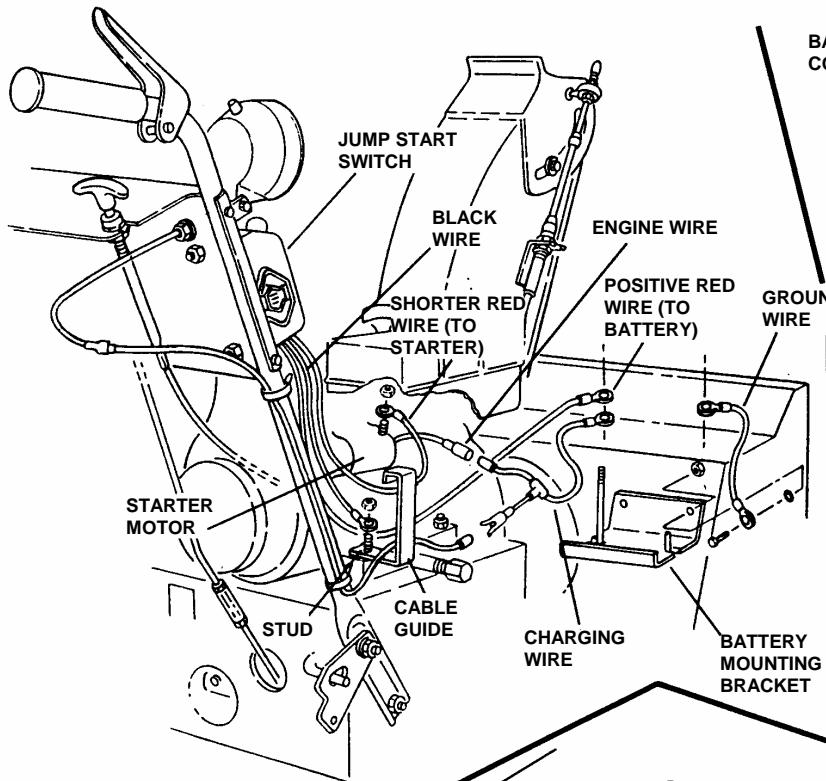
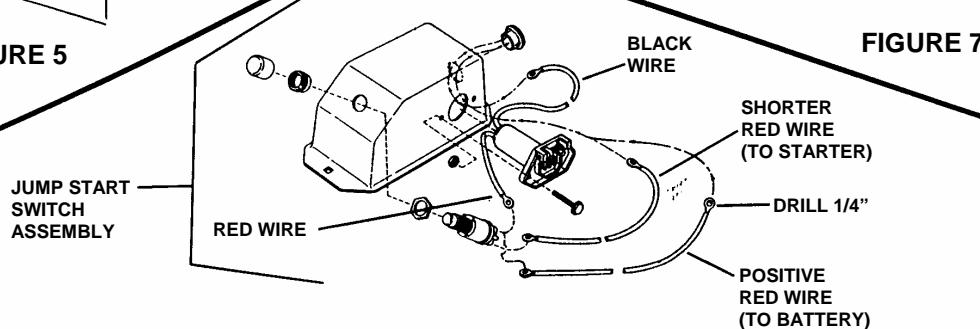

FIGURE 5
FIGURE 6
STEP 5: Secure bracket and ground wire to auger housing with nuts; washers and bolts supplied with kit. See Figure 5.
STEP 7: Install battery and connect ground wire (black ground wire found in kit #6-0651) to negative terminal side of battery with nut and bolt as shown. Tighten nut and bolt securely; do not over tighten. See Figure 5 & 7.
STEP 8: Before mounting jump start switch connect positive red wire (longer red wire that mounts to battery) to switch button as shown. See Figure 6. Mount jump start switch onto control panel using nuts and bolts found in kit #6-0646 Jump Start Kit. See Figure 5.
STEP 9: Loosen nut that secures cable guide to engine base. Install black wire from jump start switch to stud and reinstall nut and tighten securely. See Figure 5.
STEP 10: Remove nut from starter motor and mount shorter red wire from jump start switch and reinstall nut and tighten securely. See Figure 5.
STEP 11: Before mounting positive red wire drill the end that mounts to battery terminal to 1/4" diameter. Mount positive wire (red) and charging wire to positive terminal side of battery with nut and bolt as shown. See Figure 5. NOTE: There are two different charging wires found in #6-0651 Battery Mounting Kit. Visually check charging wire and use the wire that corresponds with correct male and female connectors found on engine. Connect charging wire (male connector) into engine wire (female connector). Connect light wire harness (male connector) into charging wire (female connector).